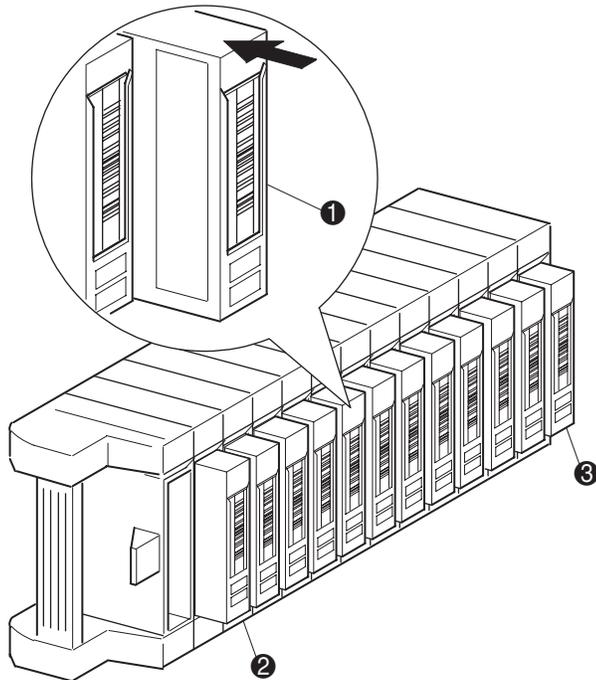

Figure 4–6: Left tape magazine with tape cartridges installed
A full left magazine is shown in Figure 4–6. For the MSL5026, the lowest numbered tape cartridge slot ❷ is the one closest to the front of the magazine. For the MSL5052, the lowest numbered tape cartridge slot ❷ is the one closest to the front of the upper-left magazine.